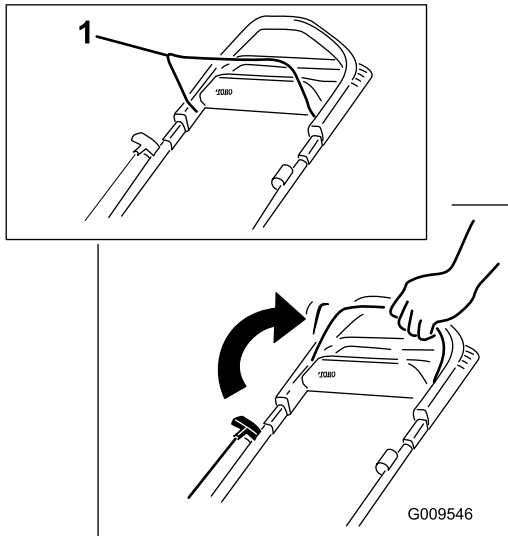

Figure 17
1. Hold the blade-control bar against the handle (Figure 17).